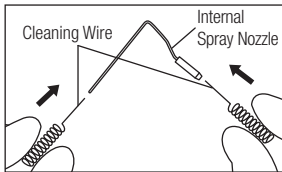

Fig. 13
- 1) Internally clean the Internal Spray Nozzle and/or the External Spray Nozzle by using Cleaning Wire. (Fig. 13,14) (X-SG20L / X-SG25L / SG20)